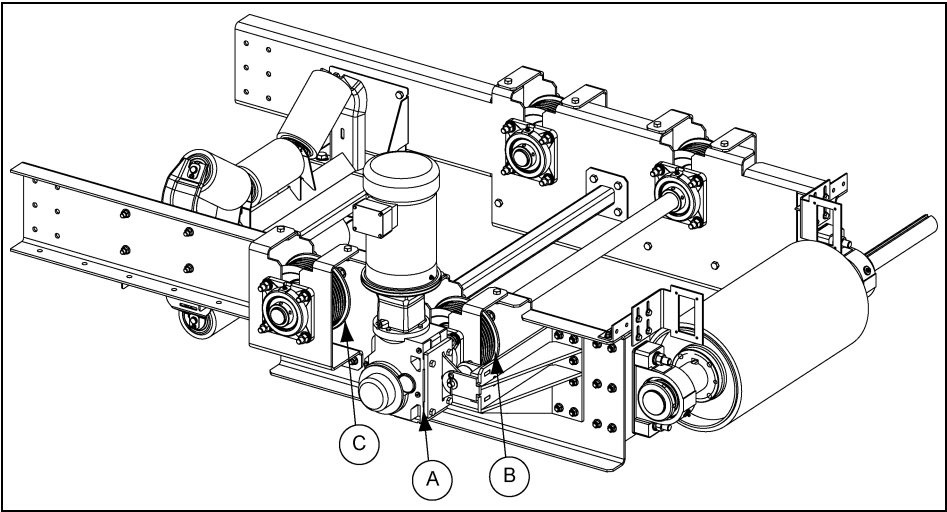
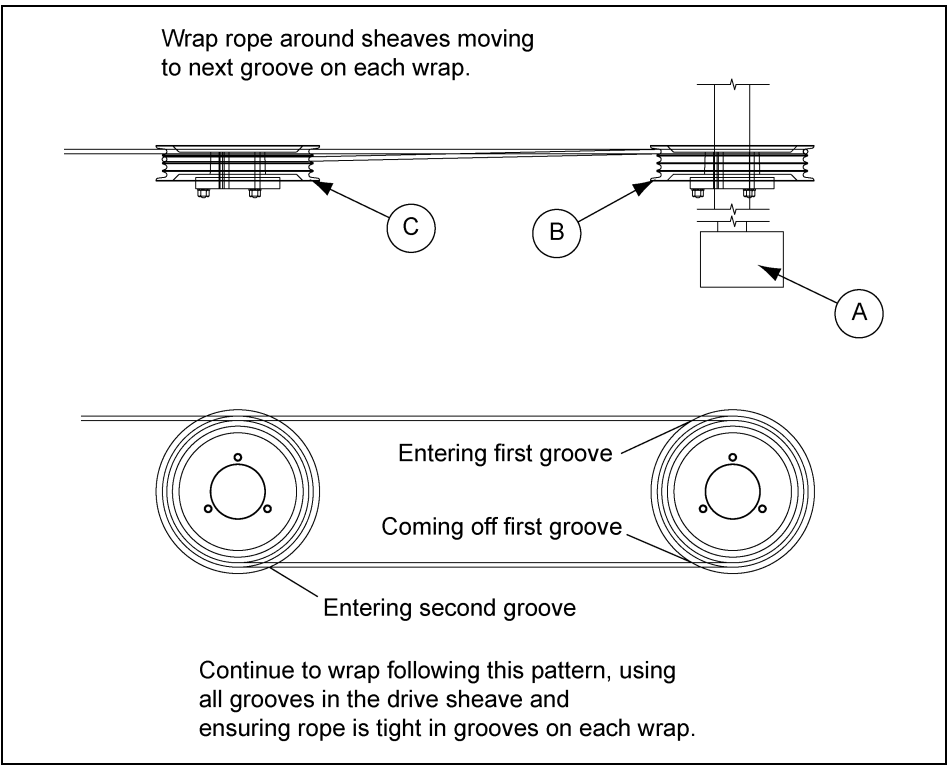

Figure 4P
Figure 4Q
A winch drive is used to pull the tripper cart to different location. (See Figure 4P.) A winch cable wrap around winch wheel and motor drives (A) the winch wheel (See Figure 4Q.). This will make trolley to move forward and backward.